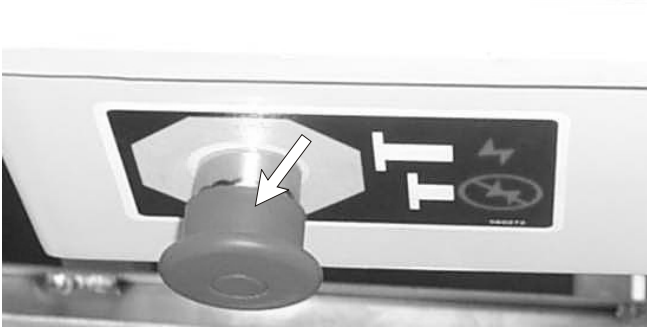

Figure 8.9
2. To raise the platform, press and hold the Platform Lift/Lower switch ❶ up (see Figure 8.9).
3. To lower the platform, press and hold the Platform Lift/Lower switch ❶ down (see Figure 8.9).